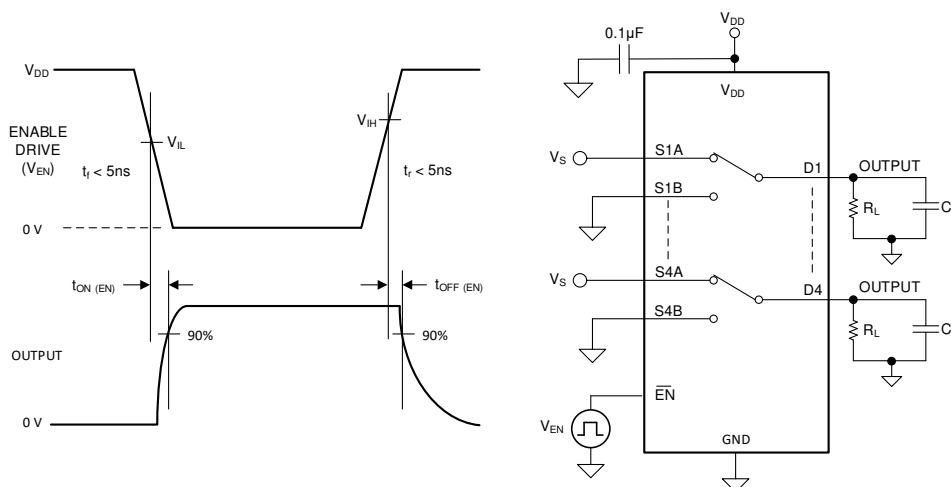

Figure 32. $t_{\text{ON (EN)}}$ and $t_{\text{OFF (EN)}}$ Time Measurement Setup
8.6 $t_{\text{ON (EN)}}$ and $t_{\text{OFF (EN)}}$ Time
The $t_{\text{ON (EN)}}$ time is defined as the time taken by the output of the device to rise to 90% after the enable has fallen past the logic threshold. The 90% measurement is used to provide the timing of the device being enabled in the system. Figure 32 shows the setup used to measure the enable time, denoted by the symbol $t_{\text{ON (EN)}}$.
The $t_{\text{OFF (EN)}}$ time is defined as the time taken by the output of the device to fall to 90% after the enable has fallen past the logic threshold. The 90% measurement is used to provide the timing of the device being disabled in the system. Figure 32 shows the setup used to measure enable time, denoted by the symbol $t_{\text{OFF (EN)}}$.